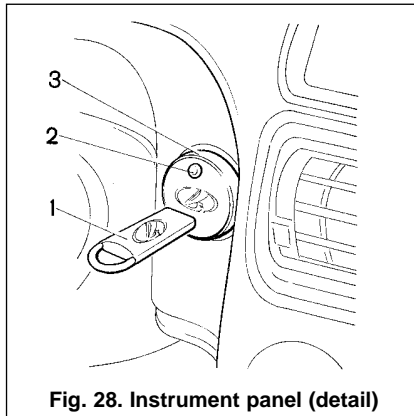

Fig. 28. Instrument panel (detail)
1. After opening a vehicle's door or a brief ignition switch-on (if the courtesy light switch in the driver's door is faulty) the immobilizer Reading Mode will be activated for 30 seconds — the key reader (3) LED (2) (Fig. 28) will flash at a double rate.